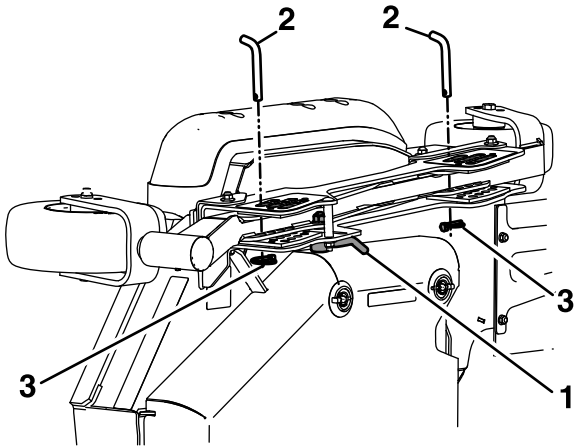

Figure 21
- B. Unlock the cam locks located on the height of cut channel on the wing deck (see Figure 21).
- D. Move the wing deck to the appropriate height and reinstall the height of cut pins and lynch pins as shown in Figure 21.